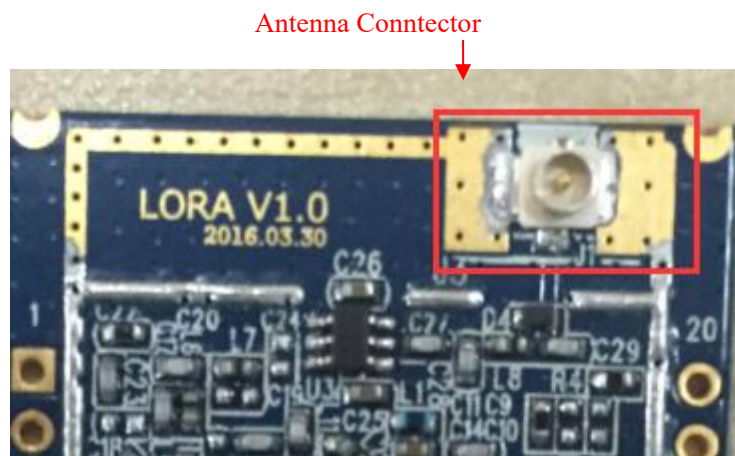

Figure 2-2 Antenna Connector
- 1) The Antenna connector part number: MM9329-2700/Murata, as the Figure 2-2: